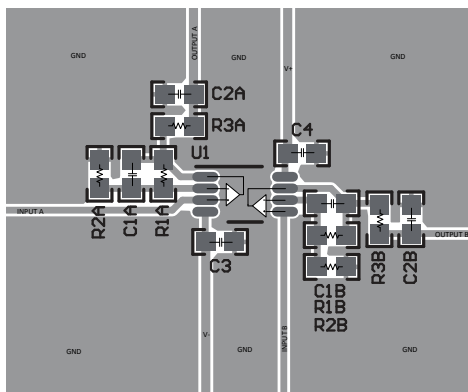

Figure 7-4. Example Layout for VSSOP-8 (DGK) Package
- Place the external components as close to the device as possible. As illustrated in Figure 7-4, keeping RF and RG close to the inverting input minimizes parasitic capacitance.